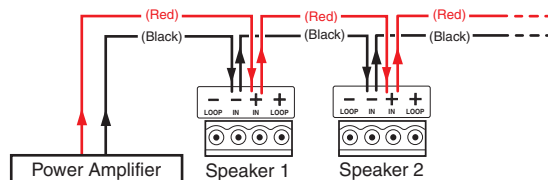

Figure 37. Wiring Multiple Speakers in Parallel
- **Wiring Multiple Speakers in Parallel:** Connect the wires to the captive screw connectors of the speakers, as shown in figure 37. Be sure to tighten the screws.